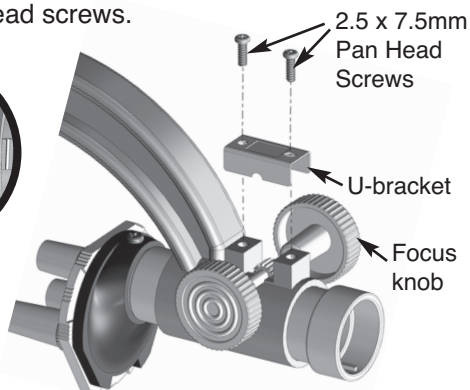

Figure 7
- ❑ Position the focus knob on the arm so the gear is centered, as shown in Figure 7.